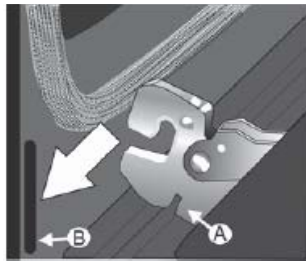

Figure 11 Position the hinge in the hinge slot
- ✓ Position hinges properly (see Figure 11).